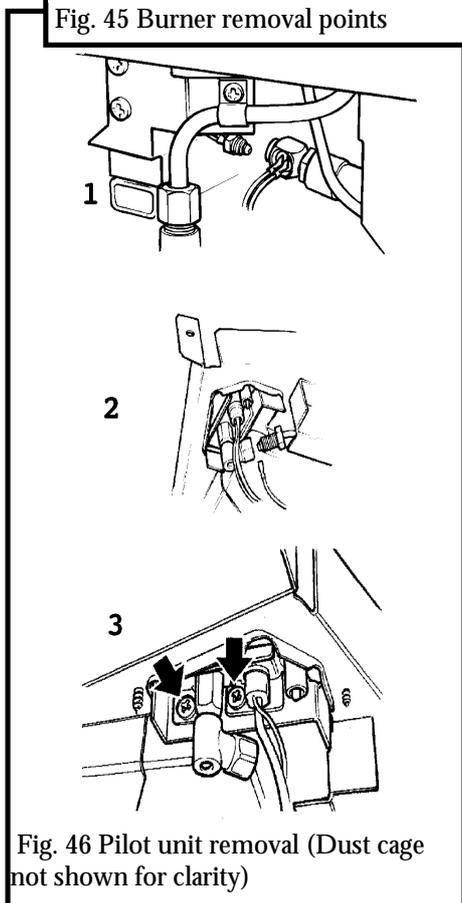

Fig. 46 Pilot unit removal (Dust cage not shown for clarity)
13.9 To remove the pilot unit (see figure 46)